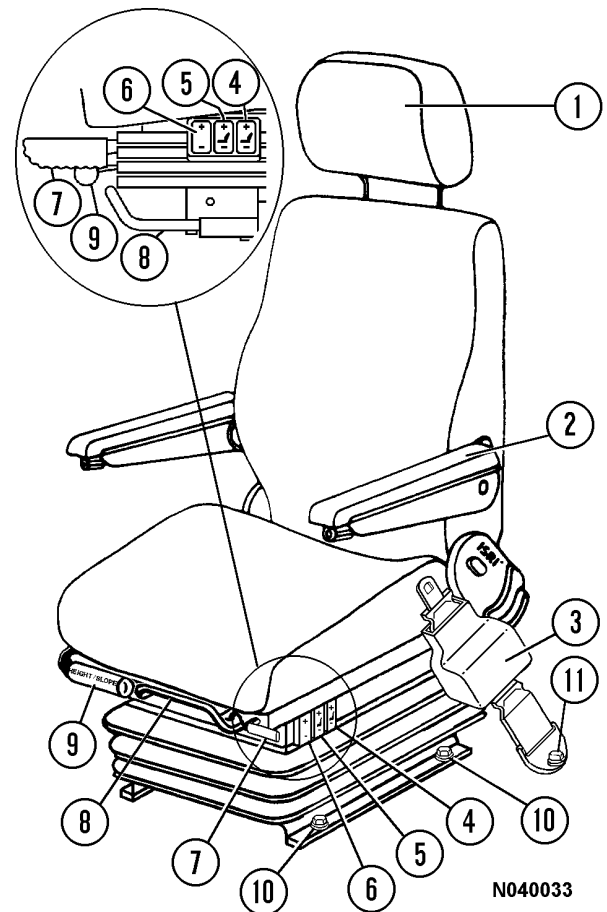

FIGURE 4-1. OPERATOR'S SEAT AND ADJUSTMENT CONTROLS
The following adjustments must be made while sitting in the seat. Refer to Figure 4-1 for the following:
1. Remove capscrews (10, Figure 4-1) and hardware that secures the seat base to the riser. Remove capscrews (11) that secures tether to floor.
1. Mount seat assembly to seat riser. Install capscrews (10, Figure 4-1), lockwashers, flatwashers and nuts. Tighten capscrews to standard torque.
2. Fasten tether straps to floor with capscrews (11), flatwashers and lockwashers. Tighten capscrews to standard torque.